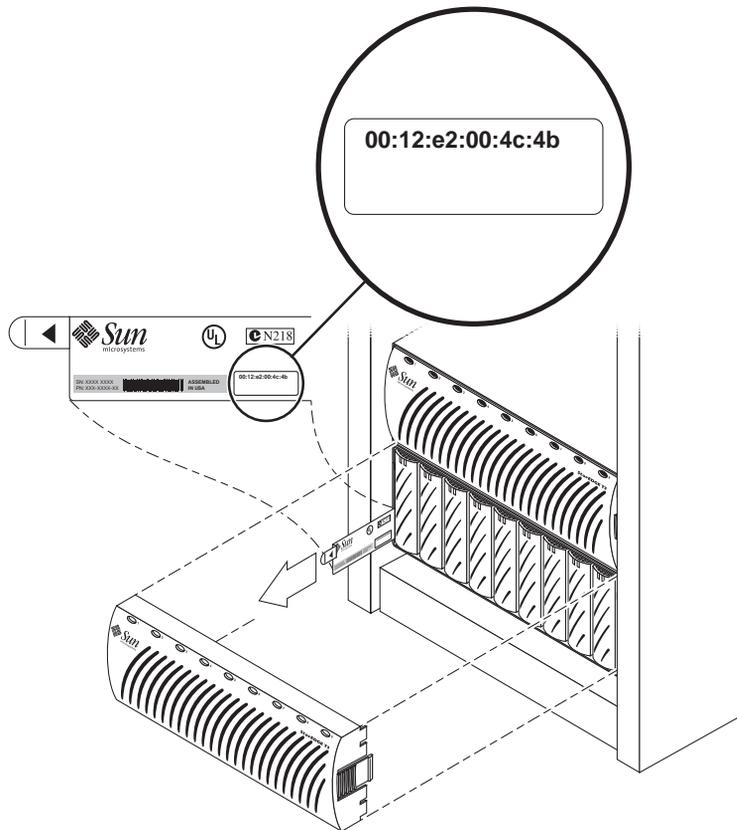

FIGURE 2-1 Location of Ethernet Address on Sun StorEdge Disk Array Pull Tab
Use FIGURE 2-1 to record site-specific information that is needed to complete the procedures in this guide. Names and addresses shown in the center column represent the examples used in this guide. Assign names and addresses (routed or non-routed) that are appropriate for your site.
2. The Ethernet address for each cluster node is located on the Customer Information, System Record sheet supplied with your system. Use the serial number on the information sheet and on the back of each node to correctly identify the Ethernet address. Ethernet addresses are located on the T3 arrays as shown in FIGURE 2-1.
FIGURE 2-1 shows the location of the Ethernet address for the T3 arrays.